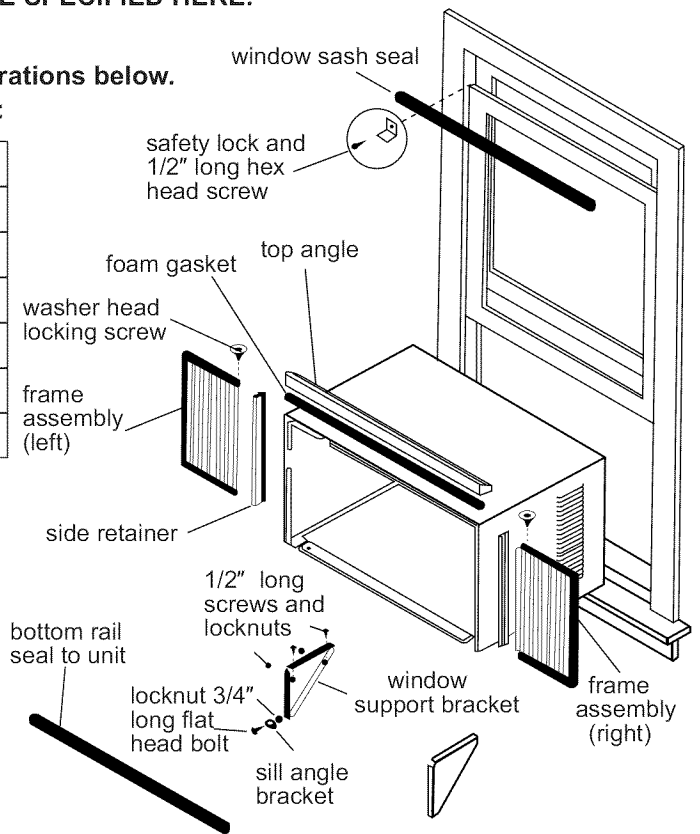

FIG.1
1. Check window opening size: the mounting parts furnished with this air conditioner are made to install in a wooden sill double-hung window. The standard parts are for window dimensions listed above. Open sash to a minimum of 19" (483mm). (FIG.1)
1. Pull down on front grille from upper edge. Lift front grille upwards and place to one side. (See FIG.1)